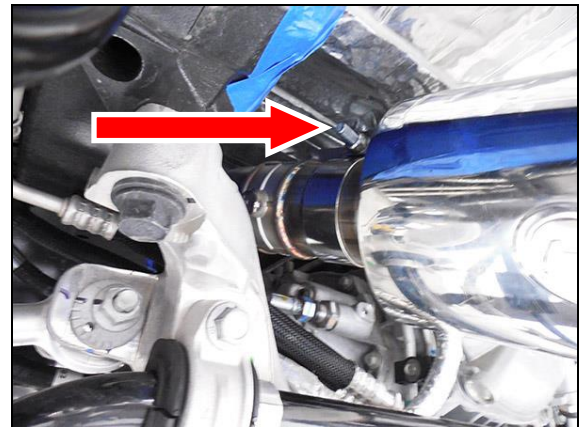

Figure 10
8. Install the 76mm band clamps onto the inlet pipes of the mufflers or muffler delete pipes. Position the clamp with the bolt at the top of the pipe and the nut facing outwards towards the tire (**Figure 10**).